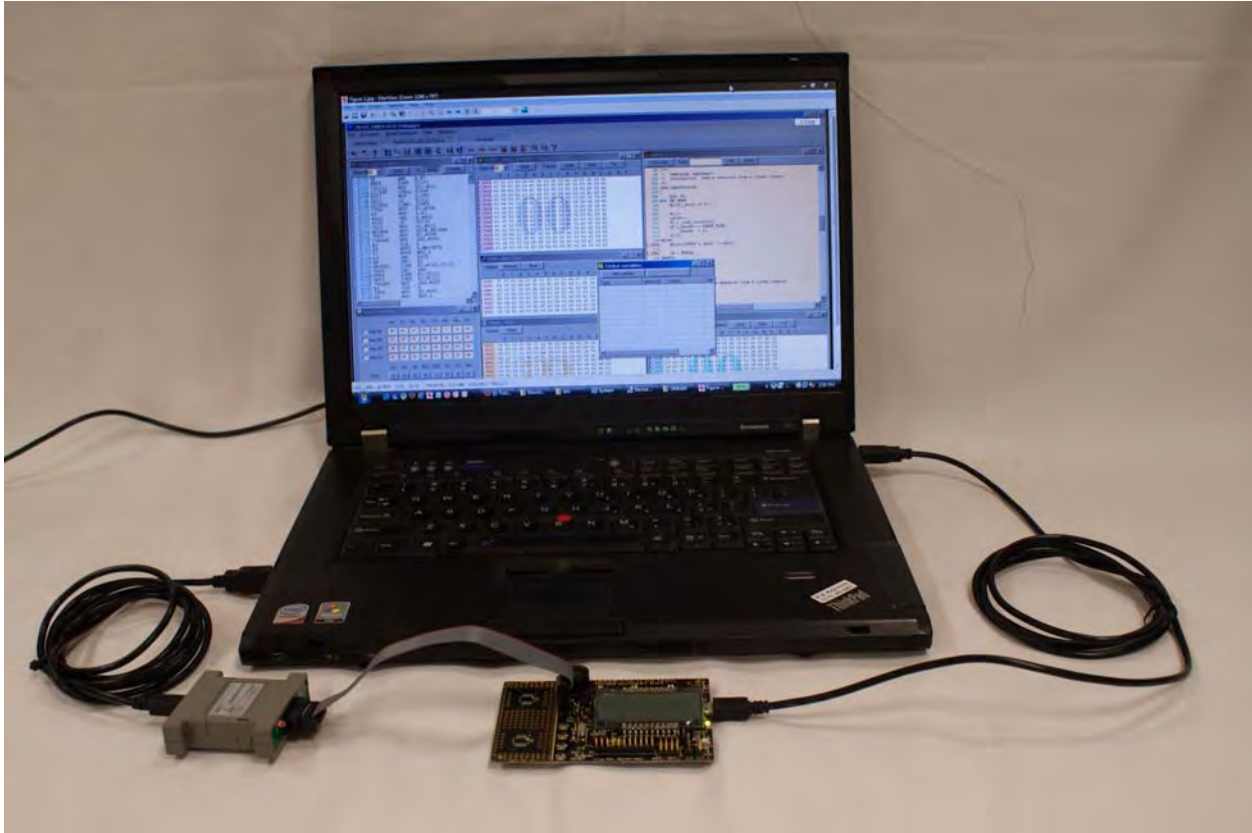

Figure 4. An Example Setup
The driver programs for the Z8051 On-Chip Debugger are copied during the software and documentation installation. In the following procedure for Windows XP systems, ensure that the target side of the OCD will remain unconnected while you install these drivers. Refer to Figure 4 for guidance.
4. When the installation is complete, plug in the Mini-B connector of the second USB cable into the Board, and the larger A connector into the USB port of your PC. Again, refer to Figure 4 on page 7 for guidance.